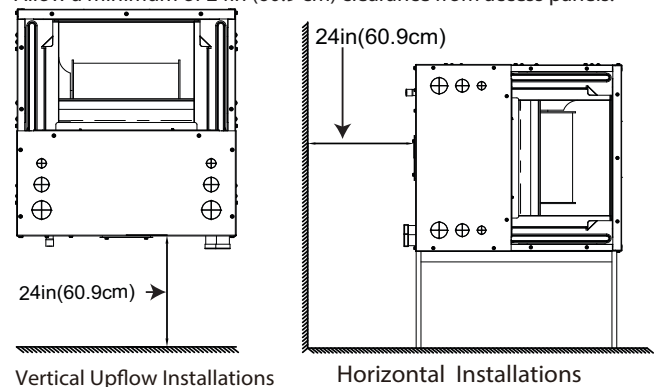

Fig. 6 — Installation Clearances
- Allow sufficient space for airflow and unit servicing. See Fig. 6 — on page 5 for the minimum required distances between the unit and the walls or ceilings.